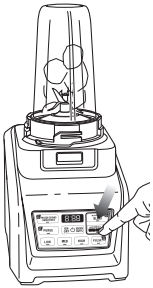

Fig. 4
- 7 Press the power button on, and select the speed or Auto-iQ program that suits your needs. (Fig. 4) The Auto-iQ program will stop the appliance automatically at the end of the program.